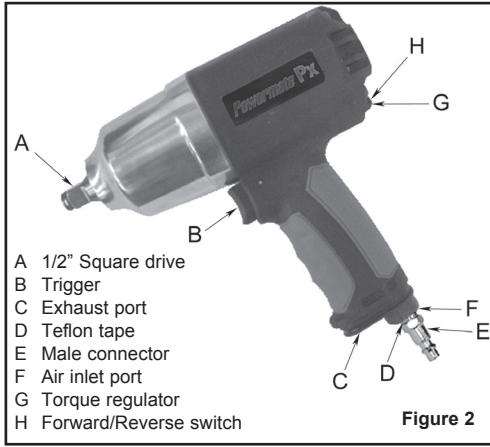

Figure 2
2. Install a 1/4" NPT male connector (not included) into the air inlet port on the tool (see Figure 2).